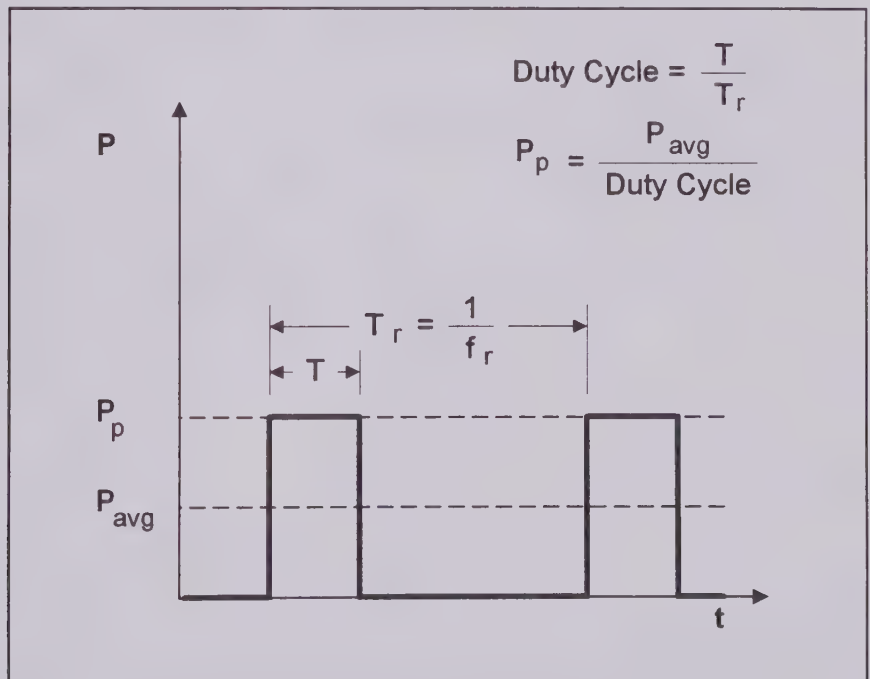

Figure 5-1. Pulsed RF Operation
Although this manual discusses power sensors used with average responding power meters, for rectangular pulsed RF signals, pulse power can be calculated from average power if the duty cycle of the reoccurring pulse is known. The duty cycle can be found by dividing the pulse width (T) by the period of the repetition frequency or by multiplying the pulse width times the repetition frequency as shown in Figure 5-1.